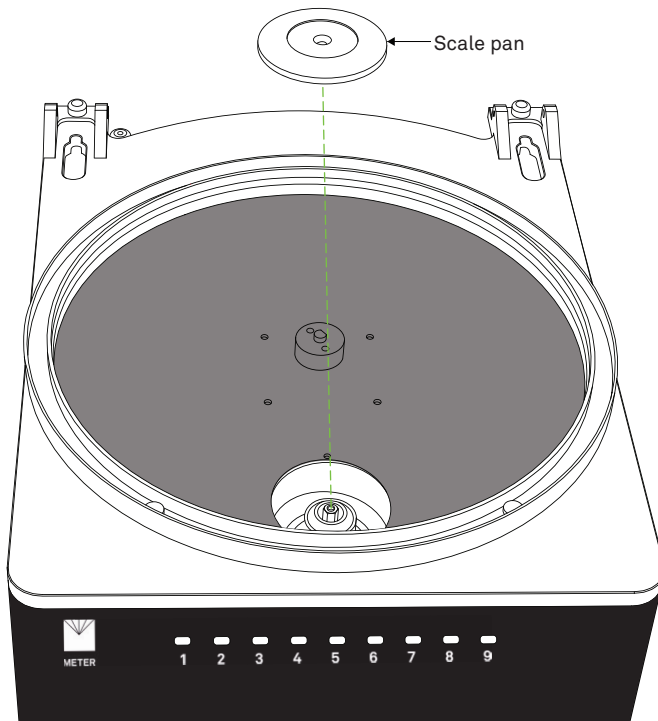

Figure 11 Remove Scale Pan
6. To access the scale well, remove the scale pan by removing the screw from the center (Figure 11).
Do not drop debris, water, or cleaning supplies down the scale rod shaft (Figure 11).